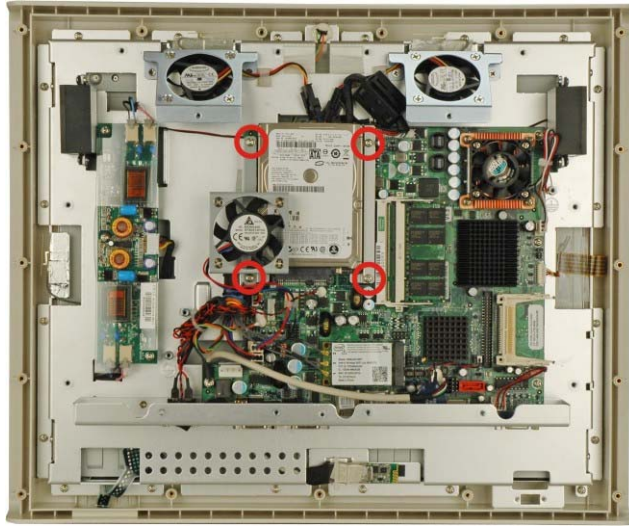

Figure 5-5: Hard Drive Installed
Step 9: Fasten the hard drive bracket screws (Figure 5-5).